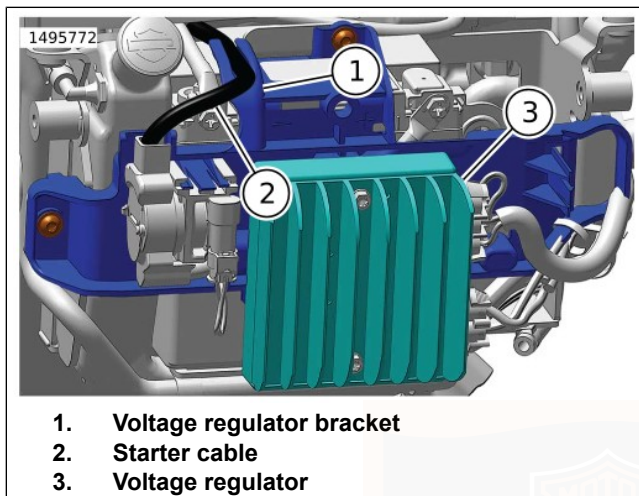

Figure 81. Negative Cable Bracket
- a. Figure 81 Route starter cable (2) in bracket (1).